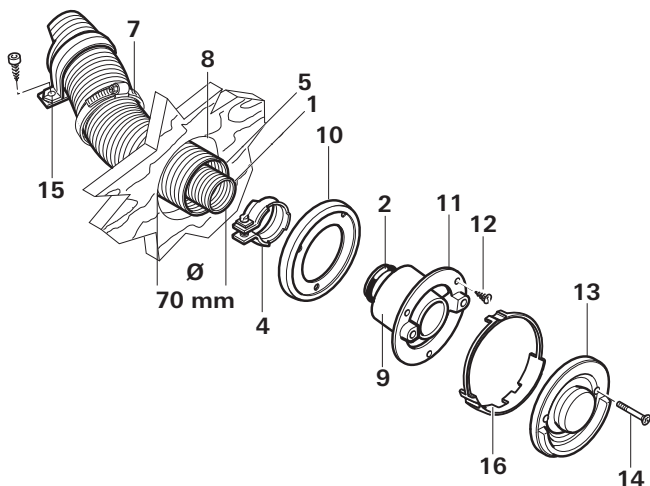

Fig. 11
To fix the heater, use only the supplied mounting brackets (Fig. 11 – A, B, C, D), which must be fixed in the respective hole pattern ①, ②, ③.